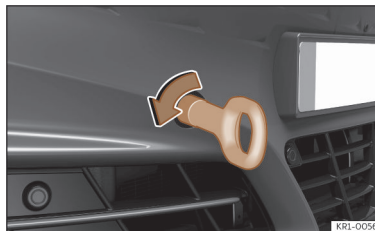

Fig. 188 Right side of the front bumper: towline anchorage screwed in.
- Screw the towing eye in the housing by turning it to the maximum **anticlockwise** >>> Fig. 188, >>> ⓘ. Use a suitable object that can completely and securely tighten the towing eye in its housing.